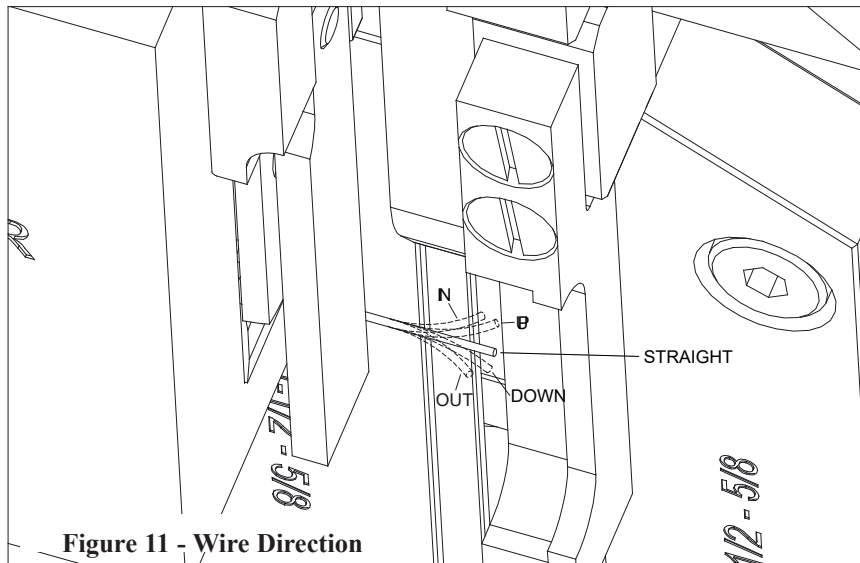

Figure 11 - Wire Direction
2. Cycle the machine several times and notice which direction the wire is curving out of the Cutter Box (Fig. 11).